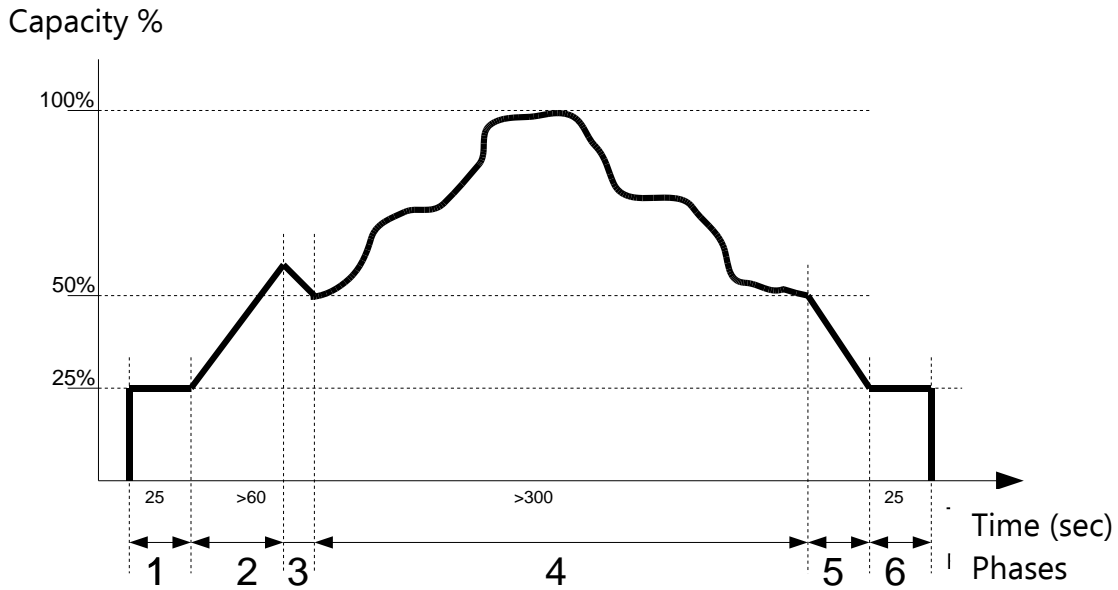

Fig. 18 Logic control of solenoid valves for stepless configuration
Cooling capacity control is obtained using solenoid valves (14),(15) and (19) which have to be excited according to logic control shown in Fig. 18 and Table 12.